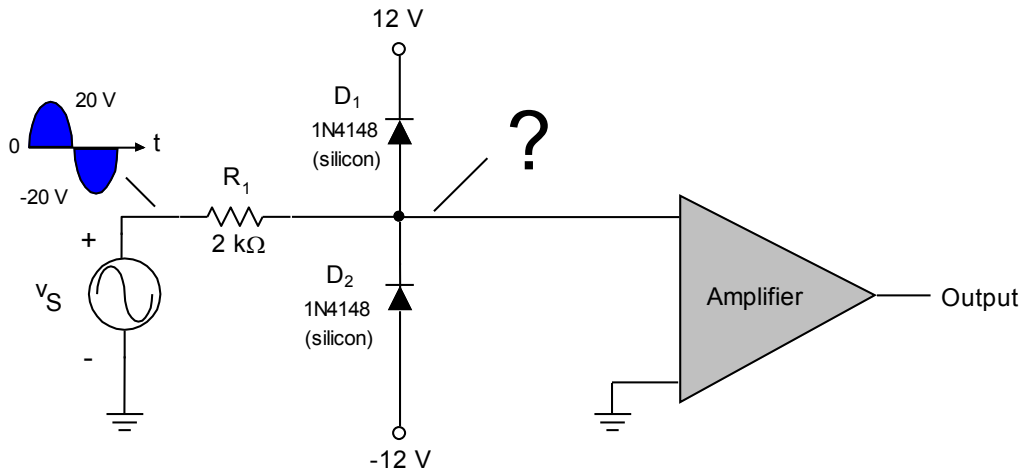

Figure 3-56.
- 3-6. Sketch the waveform that will appear across the amplifier's input in Fig. 3-56. Be sure to label the positive and negative peak values. What will be the current through diode D_1 when the source is at its 20-V peak?
- 3-7. The input voltage has been reduced to 5 V peak. Sketch the waveform that will appear across the amplifier's input in Fig. 3-56. Be sure to label the positive and negative peak values.